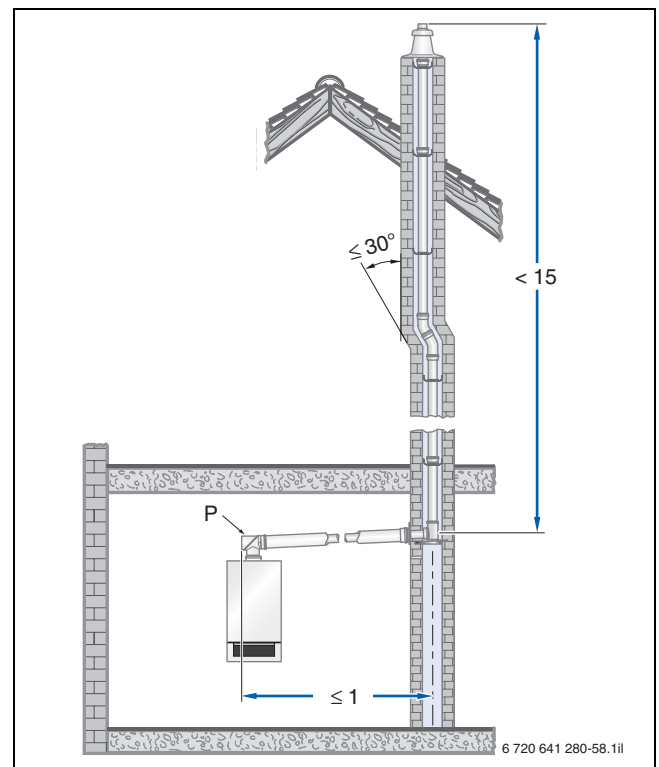

Fig. 120 Example with the inspection aperture (P) located in a flue without diversions in the installation room (dim. in m)
According to DIN 18160-1 and DIN 18160-5, flue systems for **balanced** flue operation must be able to be inspected and cleaned easily and safely. For this, allow for inspection apertures (→ fig. 120 and fig. 100).
- At the face of the straight horizontal section of the flue, no further than 1 m from the diversion into the vertical section, subject to there being no diversion in between (→ fig. 120), **or**
- The lower inspection aperture is implemented in accordance with DIN 18160-1 and DIN 18160-5 (→ fig. 120 and fig. 100).